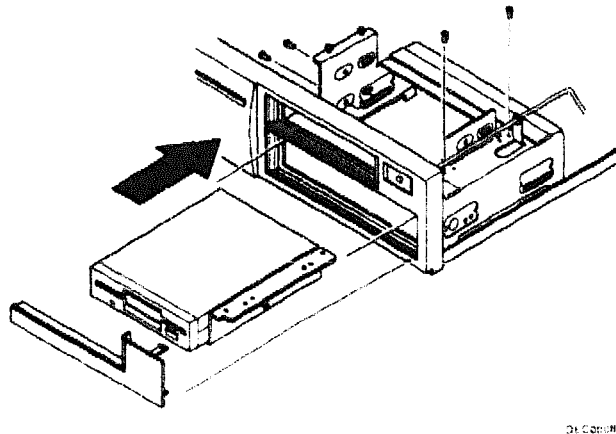

Figure 3-21 - Installing a second 3½-Inch Device (Diskette Drive)
9. Insert the new 3½-inch device into the bottom slot until the mounting adapter screw holes line up with the holes in the chassis (see Figure 3-21).